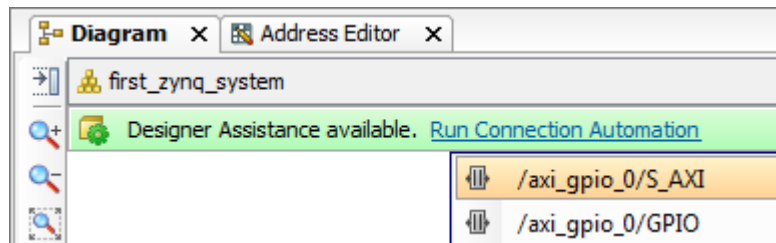

Figure 1.15: Run Block Automation - GPIO
- (g) Click **Run Connection Automation** from the *Designer Assistance* message at the top of the *Diagram* window and select `/axi_gpio_0/S_AXI`, as shown Figure 1.15.